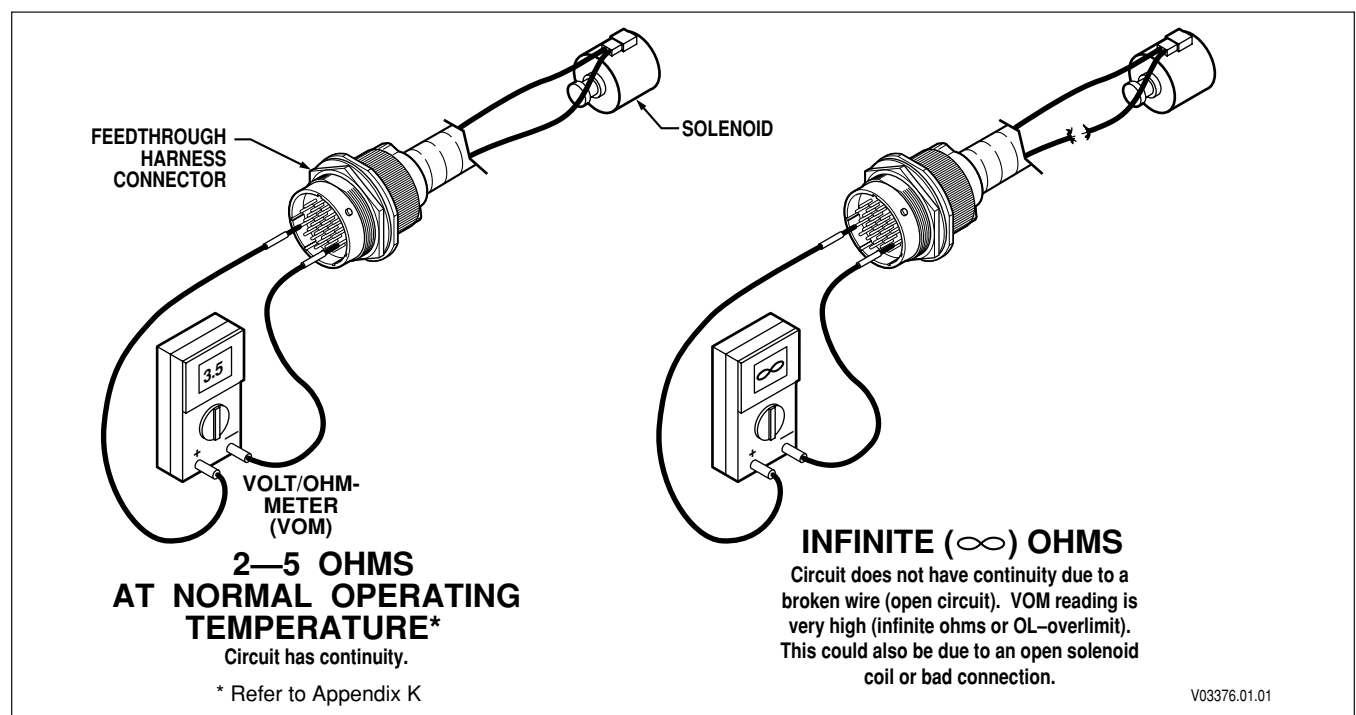

Figure 4-3. Testing for Continuity
3. If the connectors are clean and connected correctly, determine which wires in the harness to test. Use the diagnostic code system schematic to locate the wire terminals. For this example, Code 41 12 indicates an open or short-to-ground in solenoid "A" circuit—wires 102-T1 and 120-T4 (refer to Figures 4-3 and 4-4).